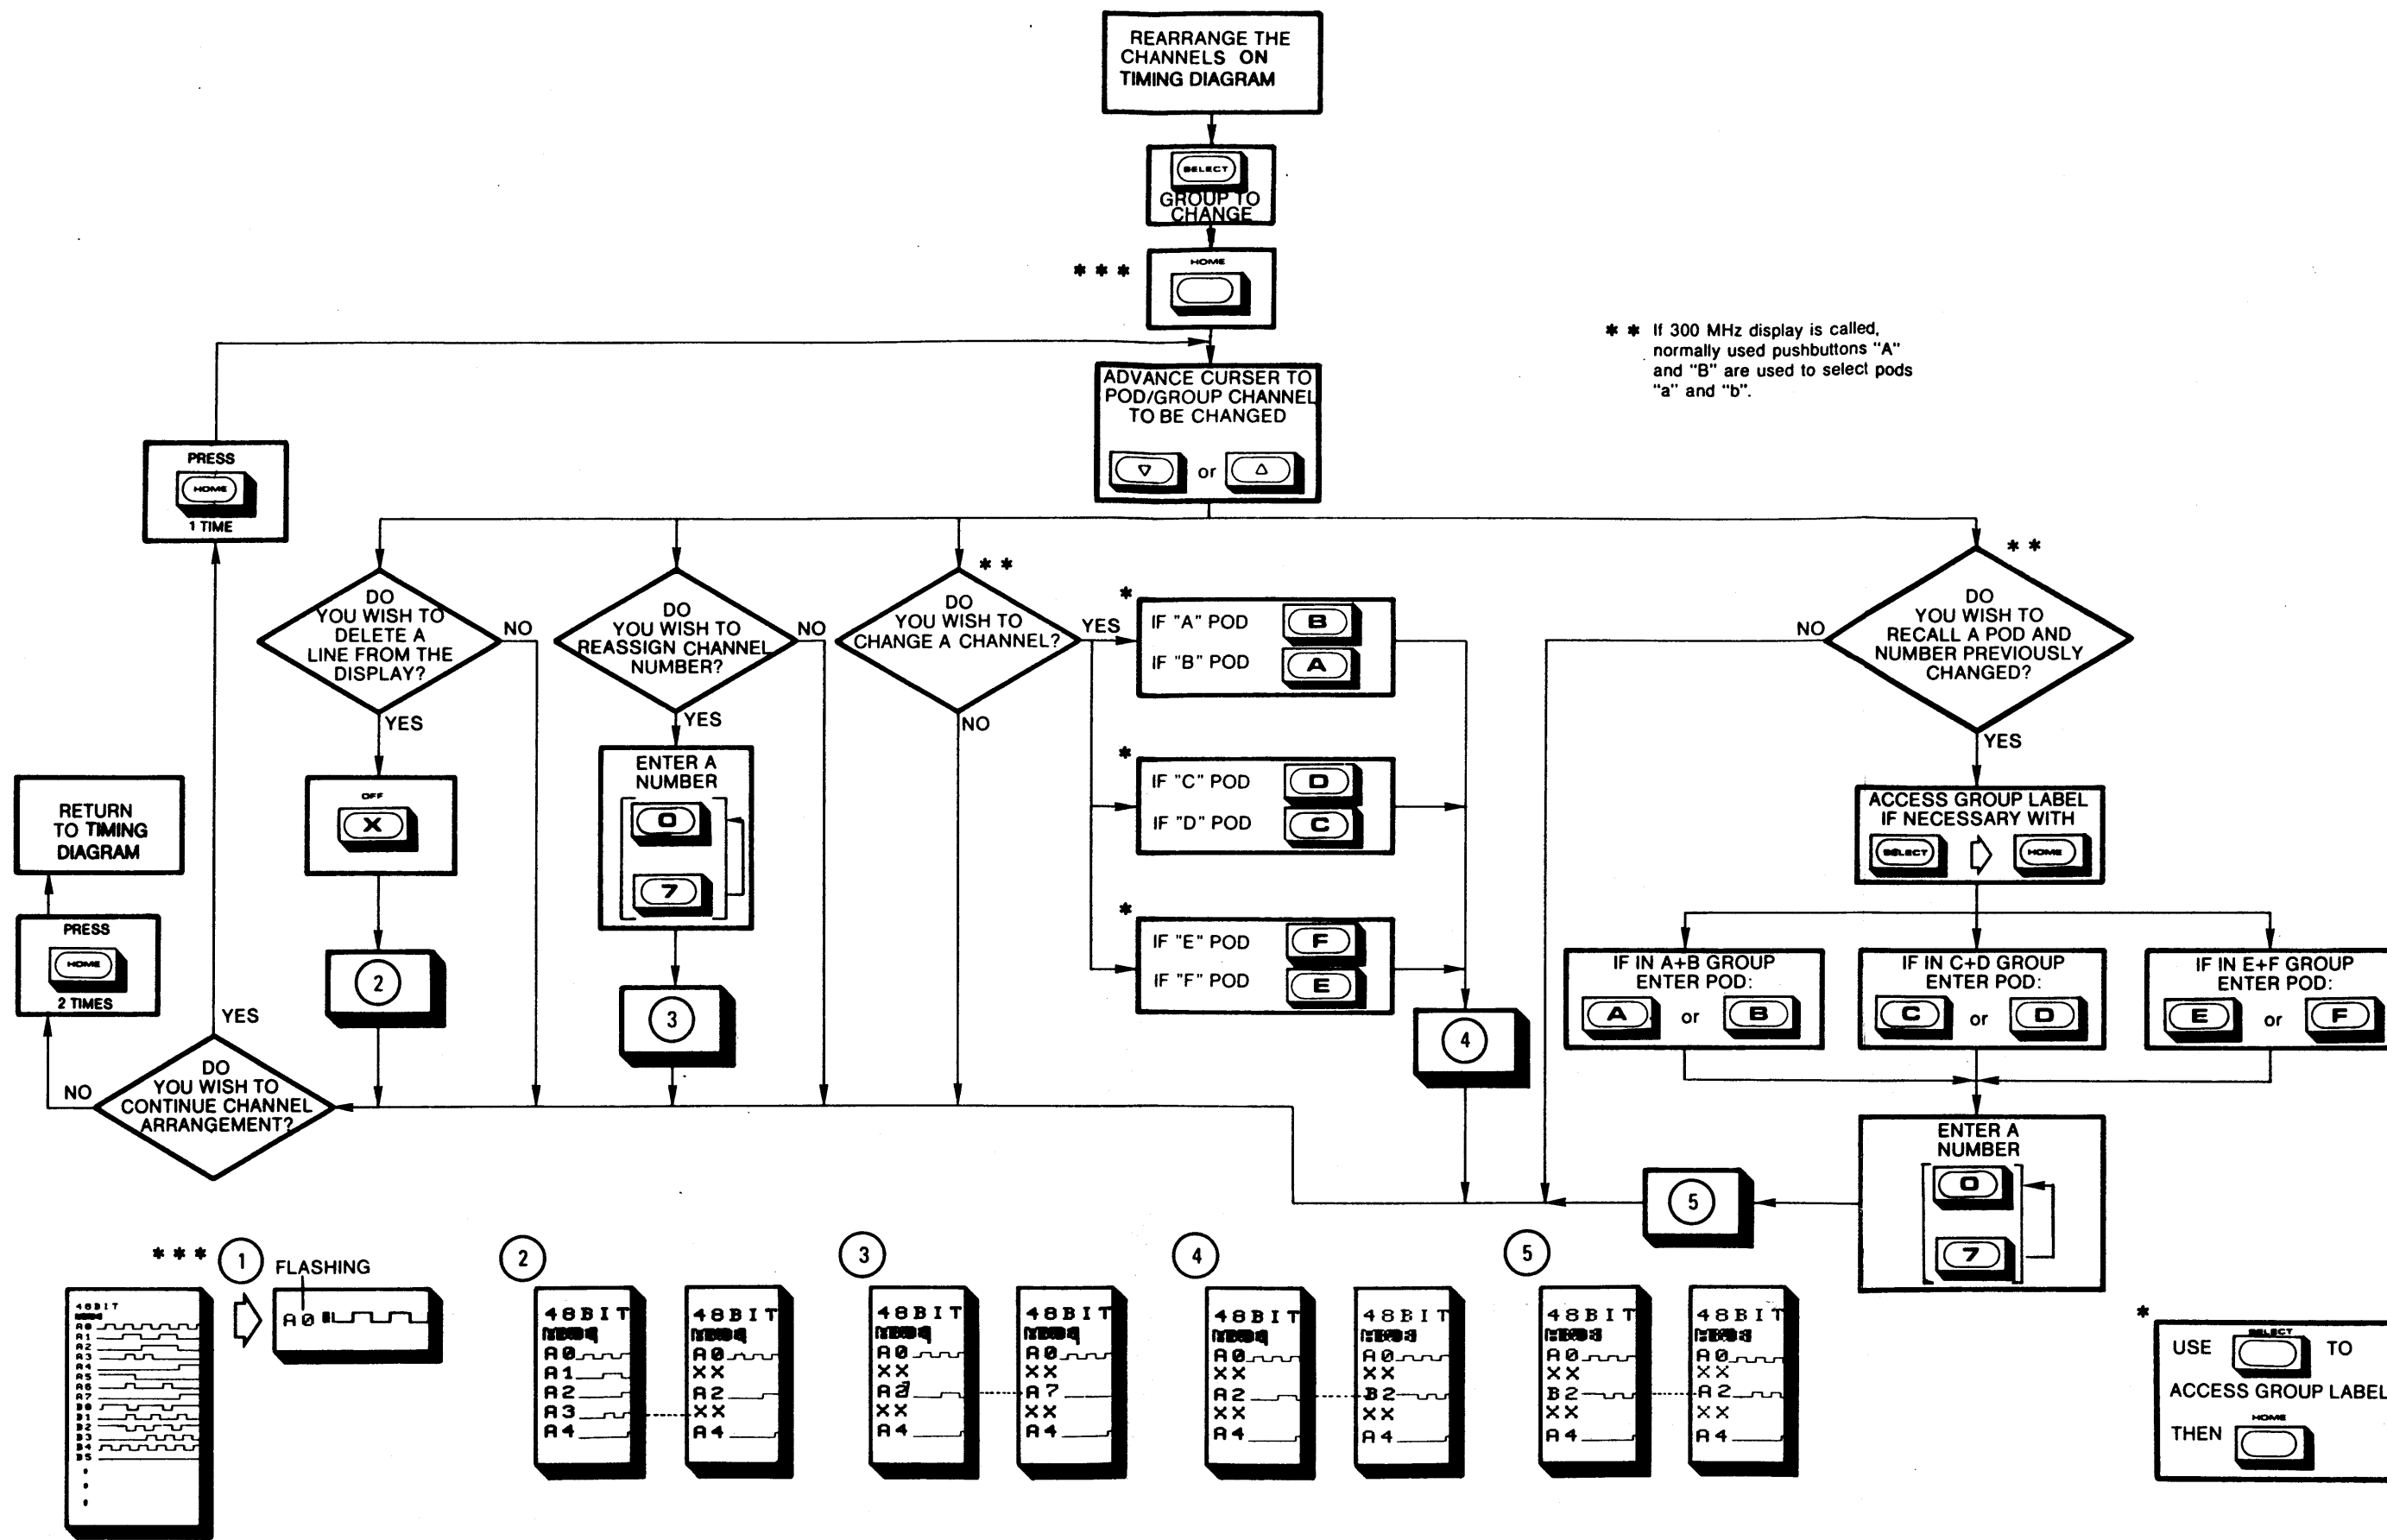

FIGURE 5-31. TIMING DIAGRAM CHANNEL ARRANGEMENT
**5.5.1.5 Arranging Channels.** It is sometimes helpful to view the TIMING DIAGRAM in a way that is not normally presented. For instance, the user may wish to view line channel A3 with B5 immediately under it, delete an entire group of unimportant channels, or rename a previously changed line channel. Figure 5-31 shows the procedures to be used when changing the channels displayed. The following functions are available:
**5.5.2.1 SRC.** When the TIMING DIAGRAM is initially selected, it shows the Source Memory contents. Binary information on the logic states for all channels at the current cursor position is shown at the bottom of the display (See Figure 5-31,  $\text{\textcircled{H}}$ ).